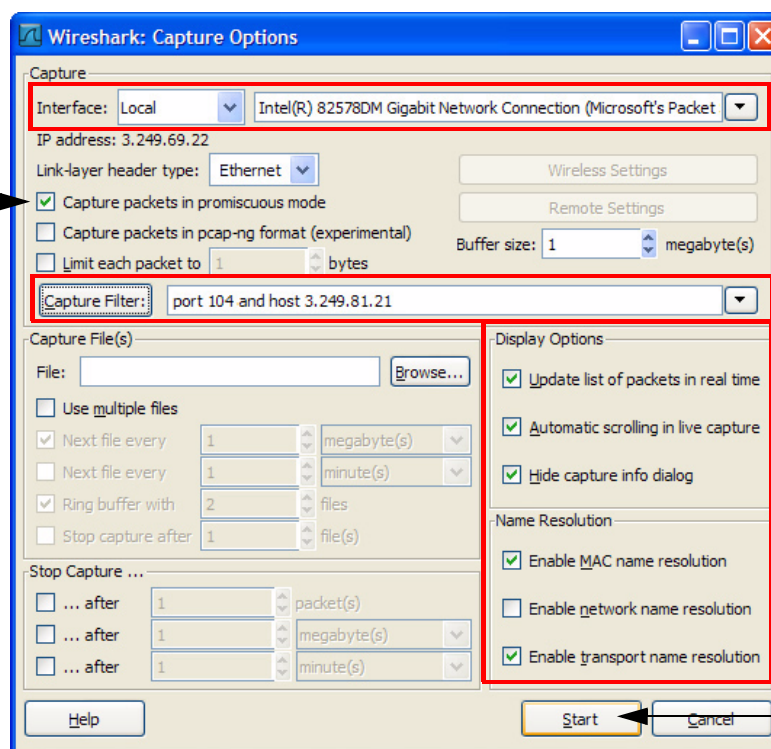

Figure 7-9 Capture Options
- 1.) Click on CAPTURE FILTER (see: Figure 7-9 on page 7-9).